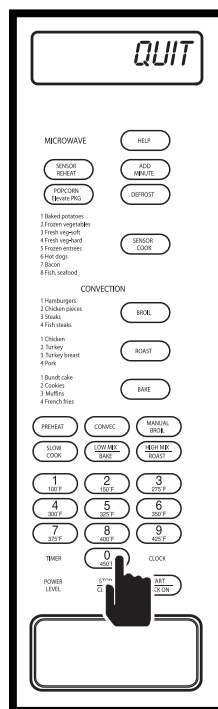

Figure 3-69.
5. Press the number 0 key. Display will flash “TO - QUIT - DEMO - PRESS - CLEAR ”. (See Figure 3-69)